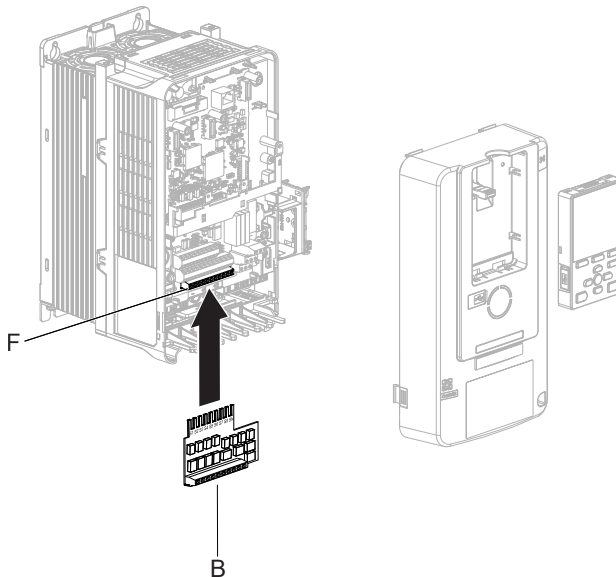

Figure 6.13 DI-101 Option Insertion into TB1
5. Insert the DI-101 option (B) into the GA800 drive control terminals TB1, S1 to S8 and SN at the insertion point (F). Refer to Figure 6.13 for the proper placement of the option terminals into the drive TB1 terminals. Secure the DI-101 option by tightening the TB1 terminals S1 to S8 and SN. Refer Wire Gauges, Tightening Torques, and Crimp Terminals on page 26 to confirm that the proper tightening torque is applied to each terminal.